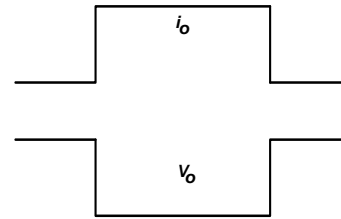
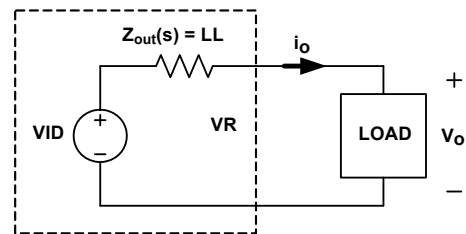

FIGURE 23. DESIRED LOAD TRANSIENT RESPONSE WAVEFORMS
FIGURE 29. VOLTAGE REGULATOR EQUIVALENT CIRCUIT
Assuming the compensator design is correct, Figure 23 shows the expected load transient response waveforms if  $C_n$  is correctly selected. When the load current  $I_{core}$  has a square change, the output voltage  $V_{core}$  also has a square response.
Figure 23 shows the desired load transient response waveforms. Figure 29 shows the equivalent circuit of a Voltage Regulator (VR) with the droop function. A VR is equivalent to a voltage source (= VID) and output impedance  $Z_{\text{out}}(s)$ . If  $Z_{\text{out}}(s)$  is equal to the load line slope LL, i.e., a constant output impedance, then in the entire frequency range,  $V_{\text{o}}$  will have a square response when  $I_{\text{o}}$  has a square change.